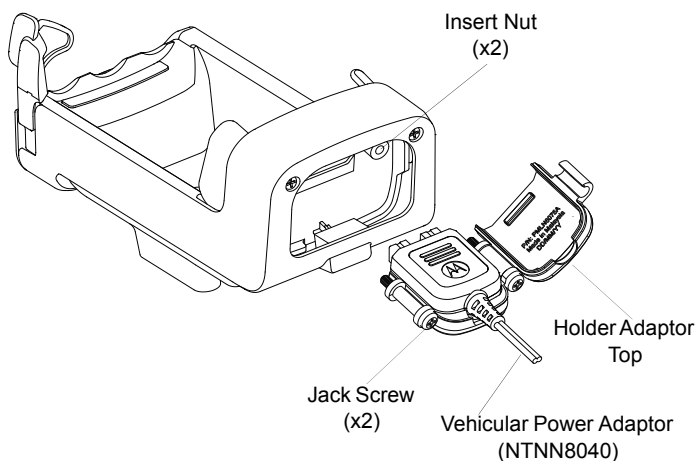

Figure 4. Installing the VPA adaptor holder onto the cradle.
When installing the PMLN6181 Vehicular Charging Cradle with VPA Kit, follow the following procedure. See Figure 4 :
1. Place the NNTN8040 Vehicular Power Adaptor on the holder adaptor as show in Figure 4.